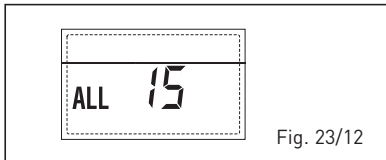

Fig. 23/12
- **EXTERNAL PROBE ERROR “ FLASHING” (fig. 23/13)**